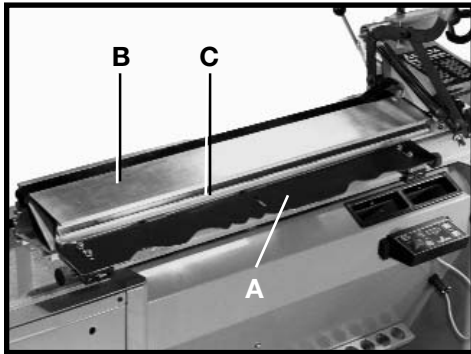

Fig. 84
Determine the center line of the turning on the template (A) Fig. 84. A minimum of 3" from the center line to the back edge of the template (A) will give maximum support to the template (A) when installed on the duplicator (B).
When attaching the template (A) Fig. 84 to the duplicator (B), the back edge of the template should rest on the ledge of the channel (C) and the two support brackets (not shown) should be positioned under the template (A) for additional support.